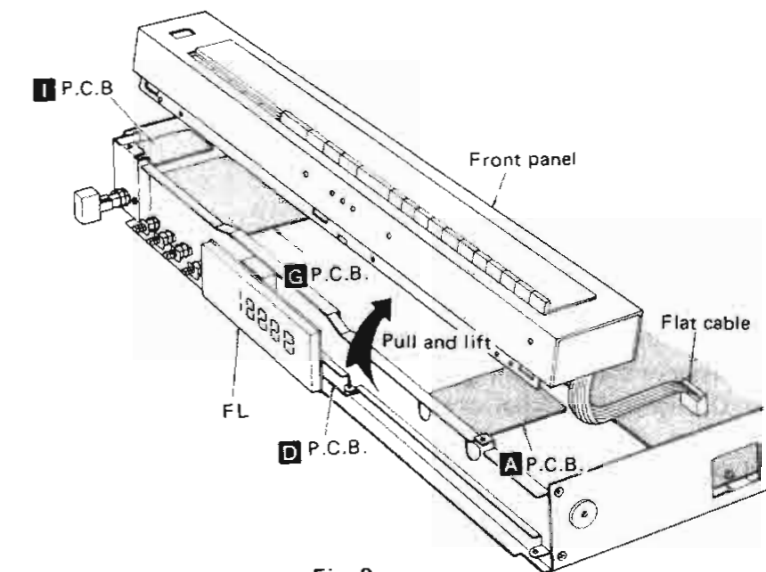

Fig. 2
3. Remove the front panel from the chassis as in Fig. 2.